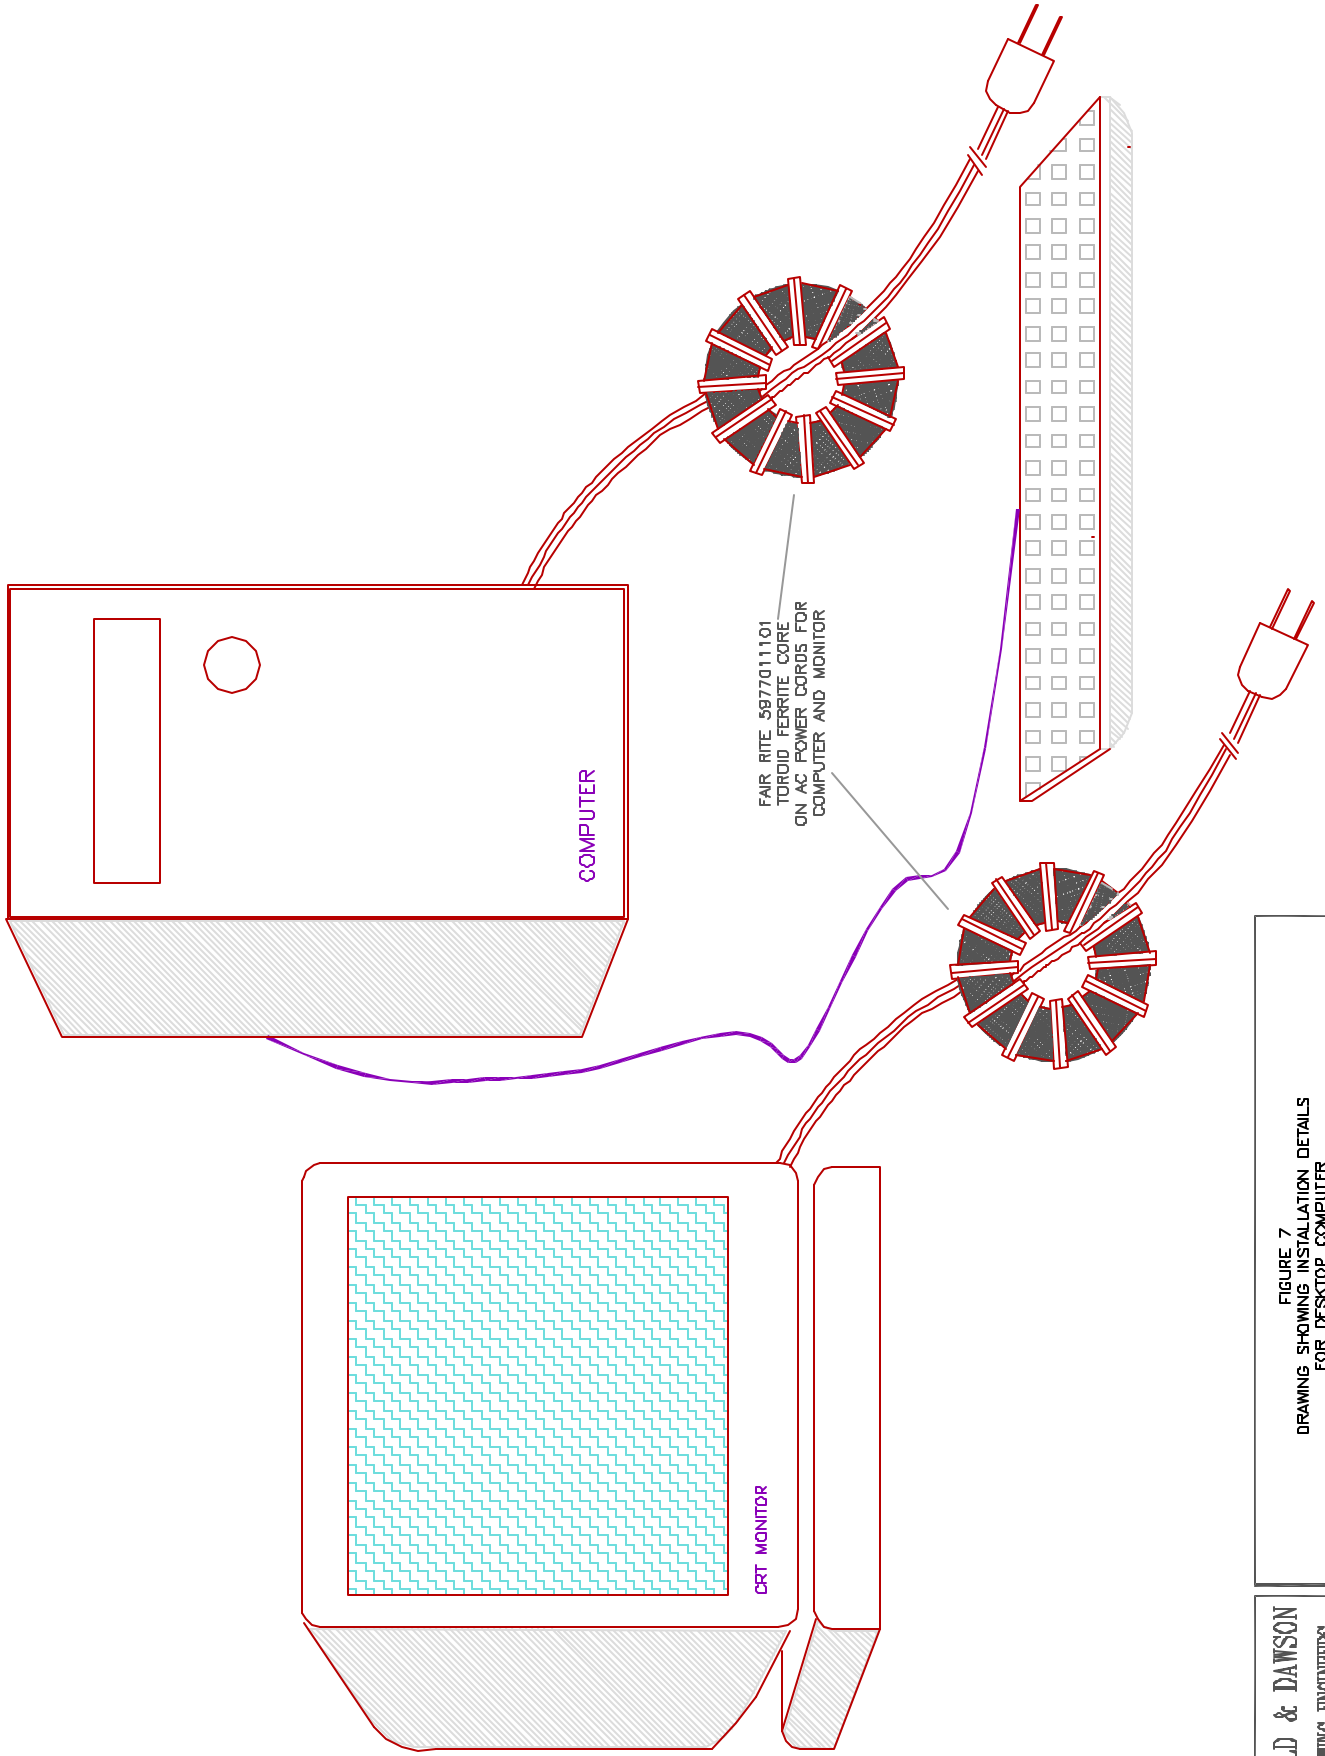

FIGURE 7
(See Figures 7 and 7A)
2. Thread each AC power cord through the center of the toroid core and slide the core up the cord to within 1 or 2 inches of the computer or monitor. Wrap the power cord around the outside of the core, through the center of the core, and around the outside of the ferrite core again as many times as possible (with most power cords it is possible to wrap 10 or 11 turns through the toroid core). Wrap the cord as tightly as possible around the core. See Figure 7 for an illustration of how to wind the power cord through the core.